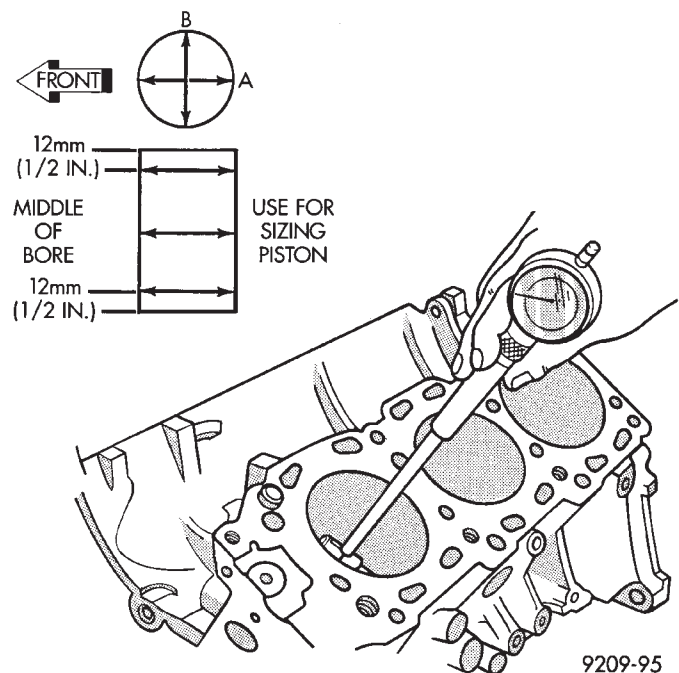

Fig. 106 Checking Cylinder Bore Size
(1) Measure the cylinder bore at three levels in directions A and B (Fig. 106). Top measurement should be 12 mm (0.50 in.) down and bottom measurement should be 10 mm (0.38 in.) up.